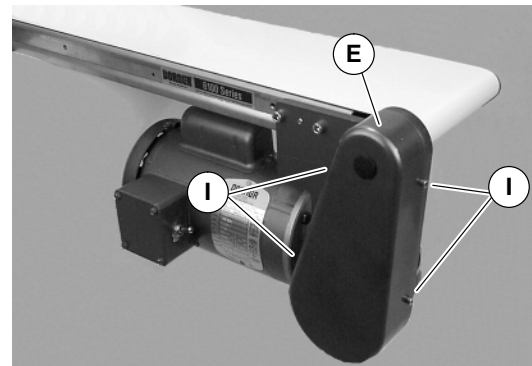

Figure 2
1. Remove four (4) screws (I of Figure 2) and remove cover (E).
7. Install cover (E of Figure 2) with four (4) screws (I). Tighten to 35 in-lb (4 N-m).